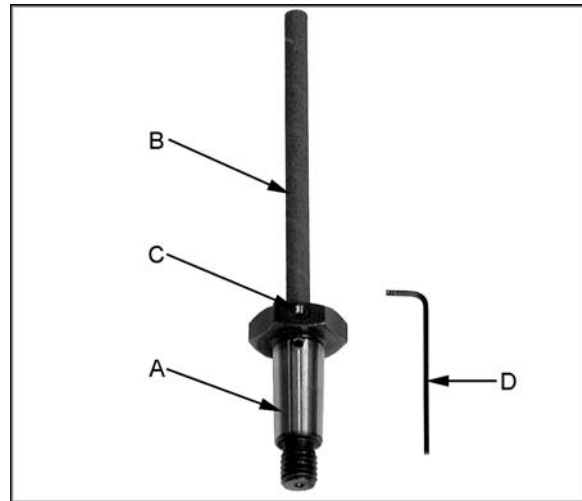

Figure 1
1. Thoroughly clean the arbors (A, Figure 1) on all of the spindle assemblies. Also clean the arbor housing on the sander.
2. Slip the sanding sleeve (B, Figure 1) over the spindle and hold in place by tightening the set screw (C, Figure 1) with the supplied 2mm hex wrench.